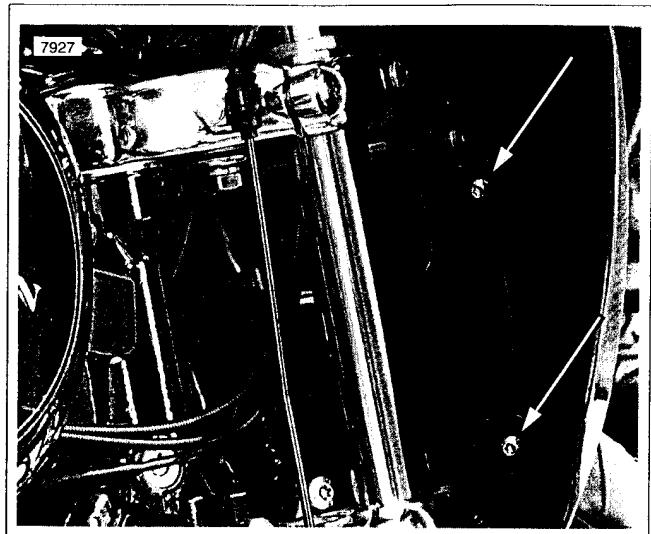

Figure 2-135. Attaching Gearbox to Fairing
10. Attach front fairing (28) to fairing support brackets (17, 27).
- a. Align lower windshield mount (attached to bottom of left (18) and right (26) cam mechanisms') to lower windshield mounting holes.
- c. See Figure 2-135. Tighten right and left support bracket mounting screws to 35-40 **in-lbs** (4.0-4.5 Nm).